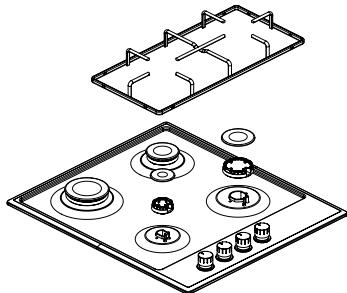

Figure 1
1. Lift the grate, burner cover and burner of the product so that the injector is visible. (See Fig. 1)